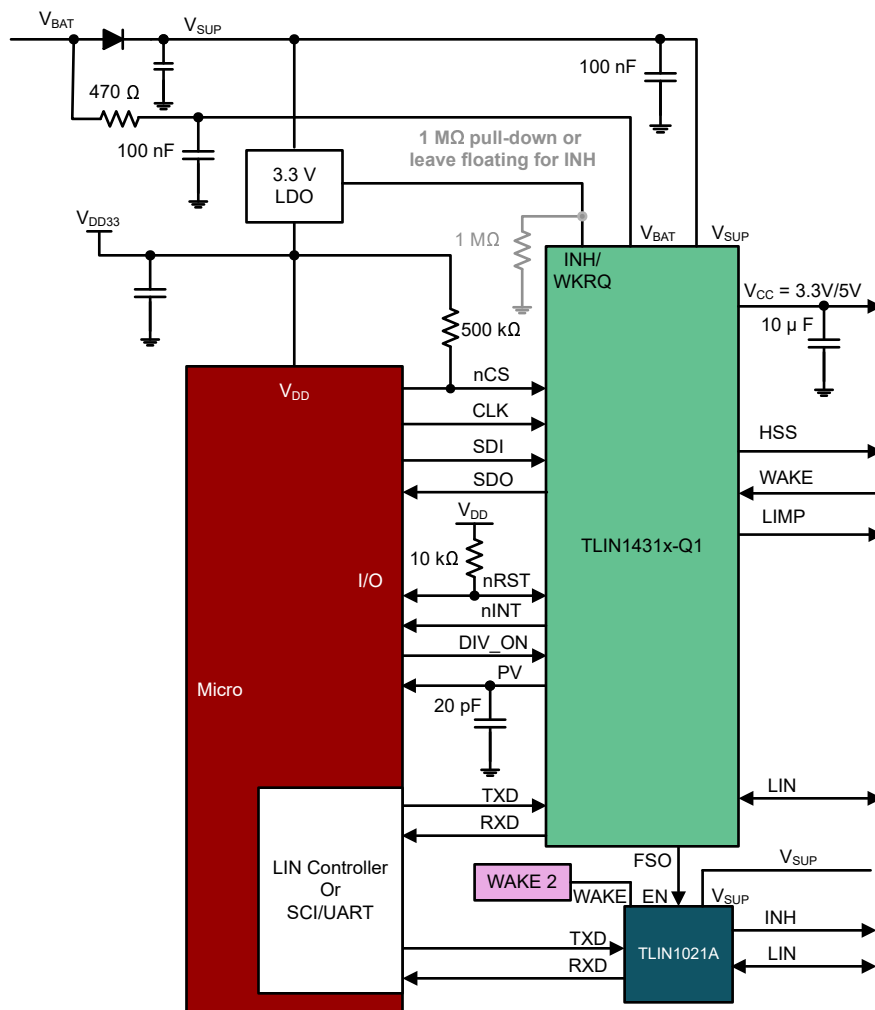

图 8-20. Channel Expansion: Enhanced LIN Transceiver
- Two LIN transceivers with two WAKE and INH capability by using an enhanced eight pin LIN transceiver (see Figure 8-20)